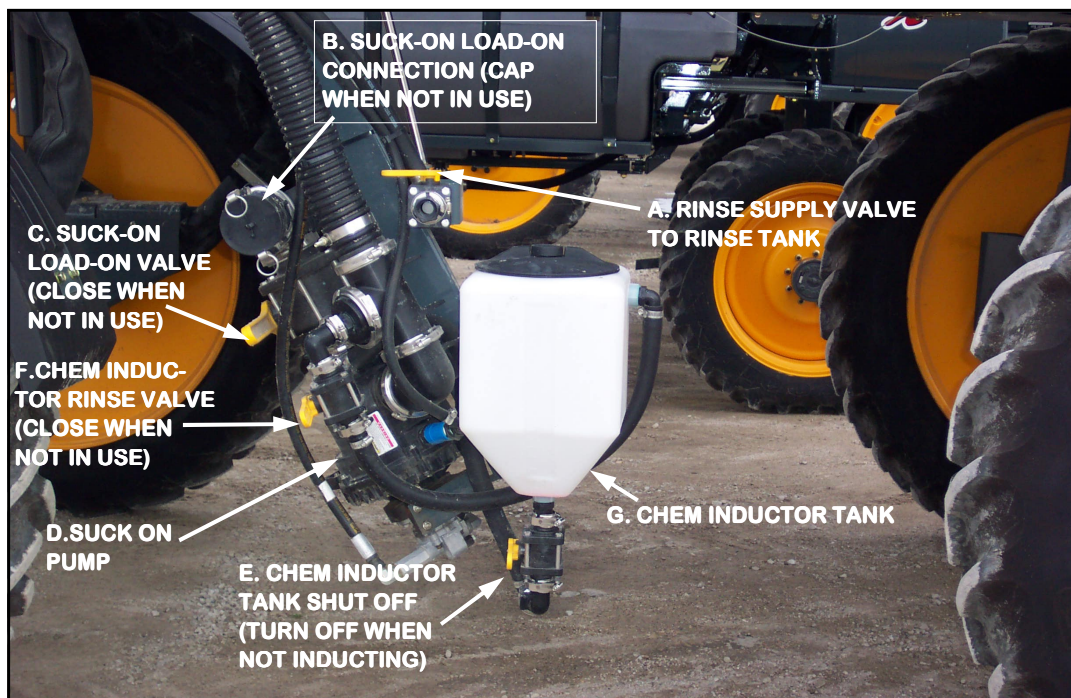

FIG 4.6D-2
\*To activate “suck-on” pump, flip the inductor control switch up (fig. 4.6D-1, item 3). This will start the pump. Flip switch down when filling is complete.